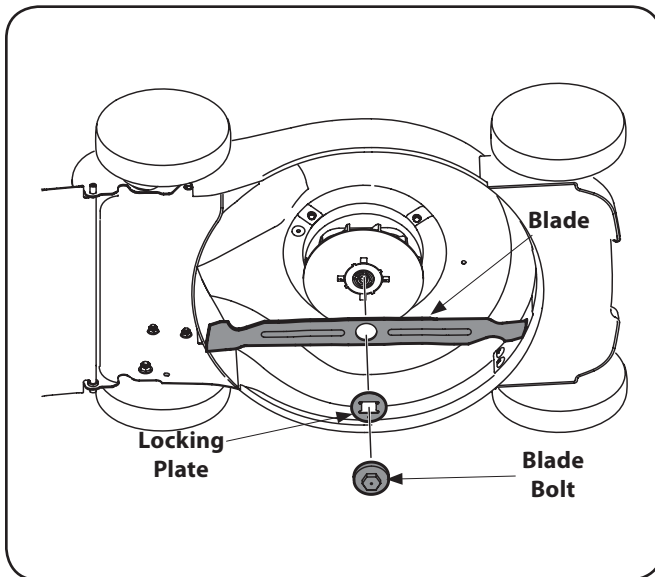

Figure 7-1
3. Loosen and remove the blade bolt, locking plate, and blade. See Fig. 7-1.
5. Place the cutting blade, locking plate, and blade bolt on the motor shaft and thread the blade bolt in finger tight. Refer to Fig. 7-1.